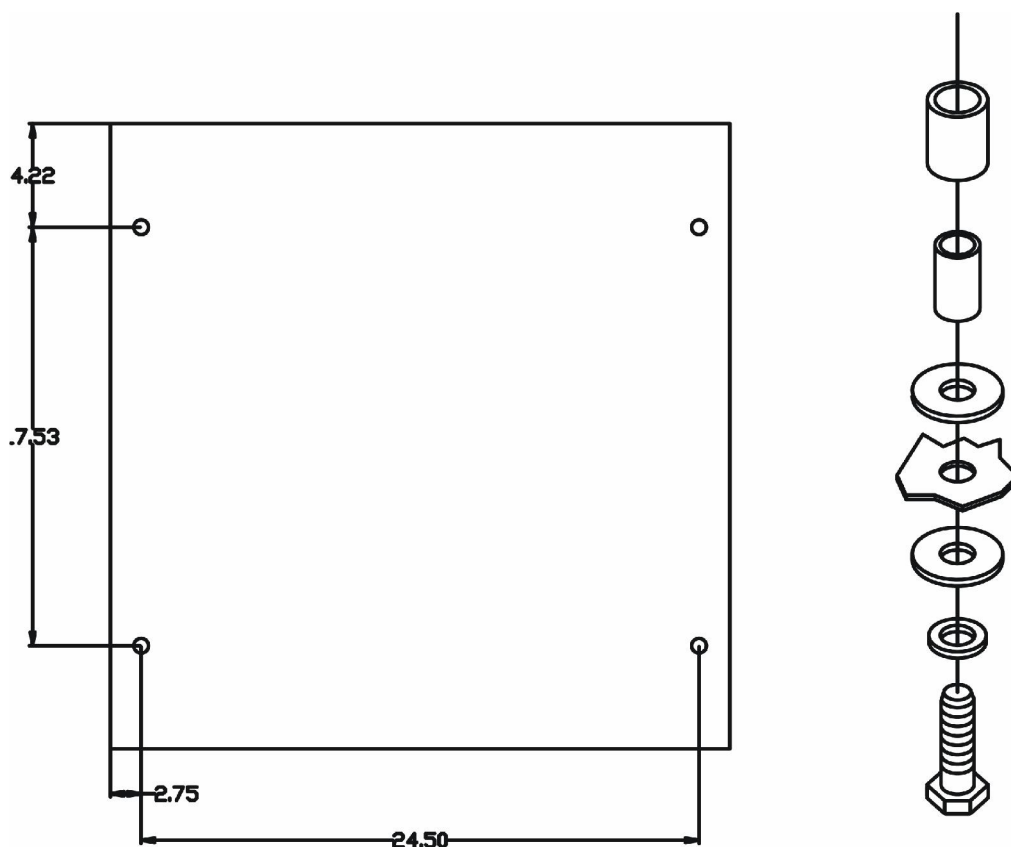

Figure 1. Base Mounting Holes
4. Refer to Figure 1. The dimensions for base-mounting holes on the enclosure mount (6) are shown on the dimension and hardware location illustration. The resilient mount (3), washer (2), spacer (4), elastomeric tube (5), and cap screw (1) are shipped with the air conditioner. Refer to Figure 2 showing front, top, and rear views for installation dimensions.